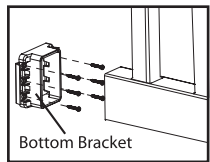
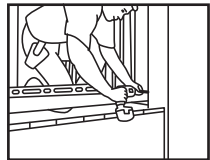

Figure 3
Figure 4
5. Slide bottom brackets onto bottom rail (Figure 3). Place bottom rail into opening making sure rail is level. With brackets centered on the mounting surface, attach with provided 2" screws (predrill) (Figure 4). When installing bottom rail brackets, make sure not to over tighten screws. If screws are over tightened, flaps may not stay closed on brackets. **Note:** When installing screws into